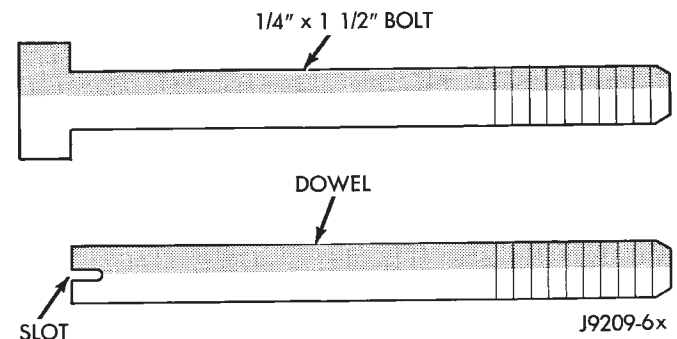

Fig. 52 Fabrication of Alignment Dowels
(1) Clean the block and pan gasket surfaces.
(2) Fabricate 4 alignment dowels from 1 1/2 x 1/4 inch bolts. Cut the head off the bolts and cut a slot into the top of the dowel. This will allow easier installation and removal with a screwdriver (Fig. 52).